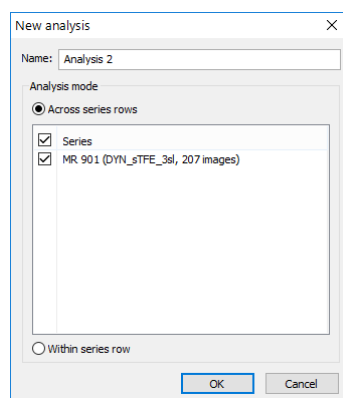

Figure 373 – Creating a new quantitative analysis
3. Click **New...** to open **New analysis** dialog (see Figure 373).